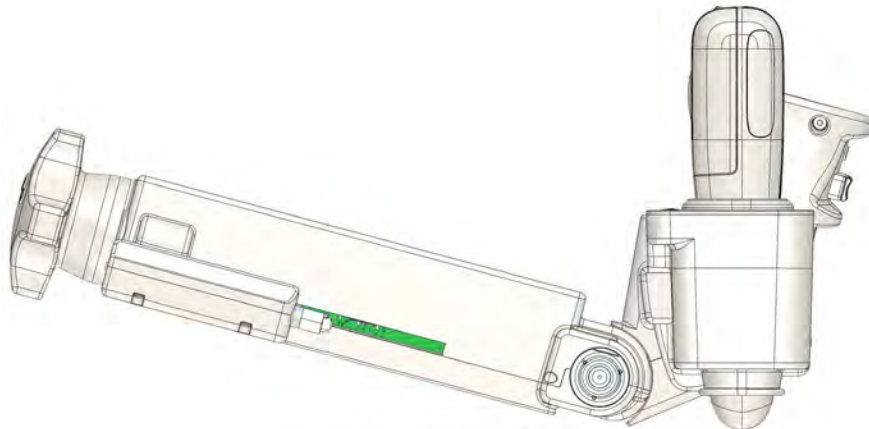

Figure 9. CERTA Access Device.
1. From the stowage position, angle the CERTA Aiming Arm to the lowest elevation by releasing the Aiming Arm Brake Knob and manually adjusting downward (Figure 9). After reaching the lowest elevation, lock the Aiming Arm by rotating the knob to the right until the knob clicks.